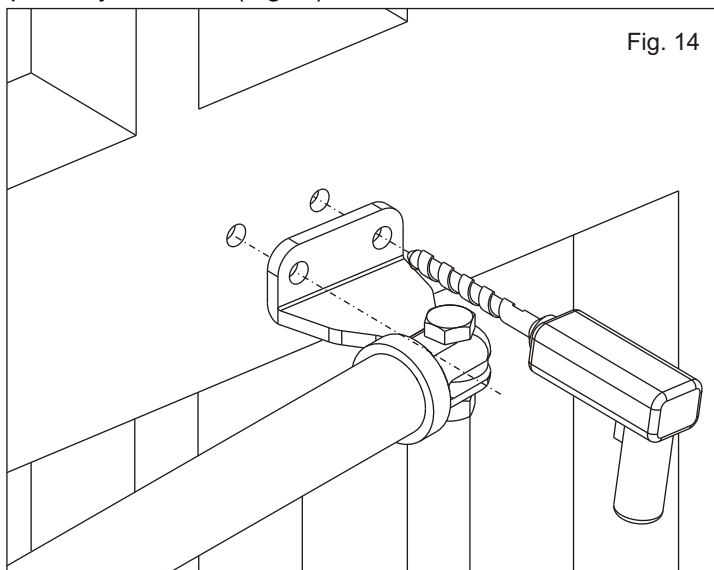
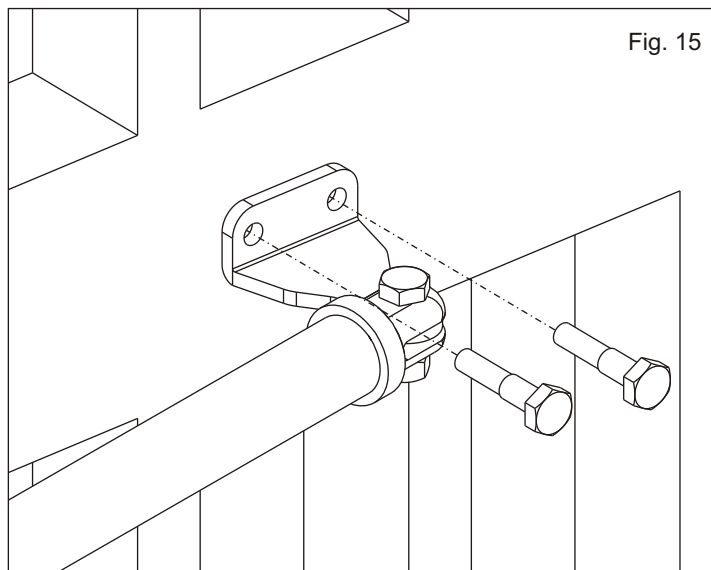

Fig. 14
Fig. 15
2.8. Drill a hole into the gate (Fig 14) to be able to attach the front bracket with the supplied bolts being careful to place the operator perfectly horizontal (Fig 15).